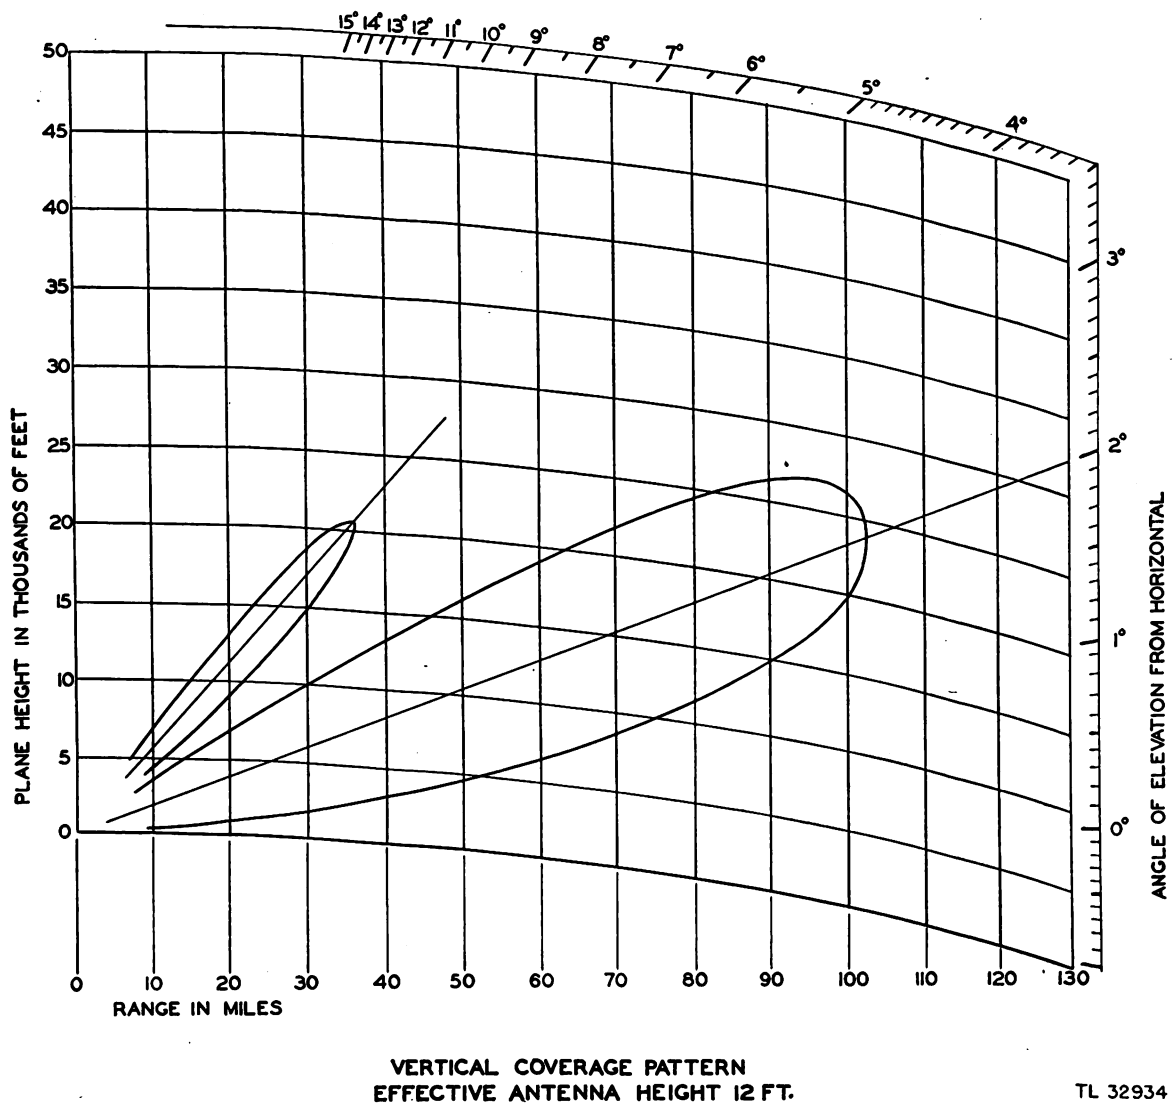

Figure 17. Antenna vertical coverage pattern, 12 foot site.
d. Antenna Height. (1) With the effective height equal to 12 feet, the main lobe makes an angle of 2° with the horizontal. Figure 17 indicates that in this case, a plane flying in at 20,000 feet should first be picked up at 100 miles; a plane flying in at